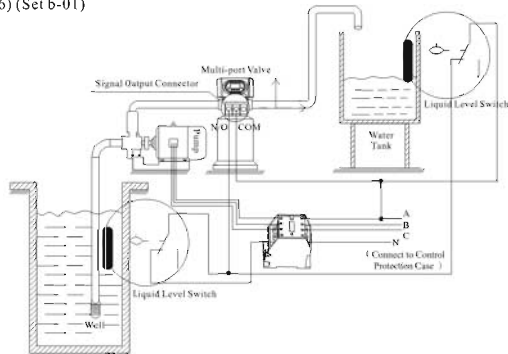

Figure 3-6 Wiring of Liquid Level Controller Controlling 380V Inlet Pump
3). Liquid Level Switch in Water Tank Controls Inlet Pump (Three-phase, Figure 3-6) (Set b-01)